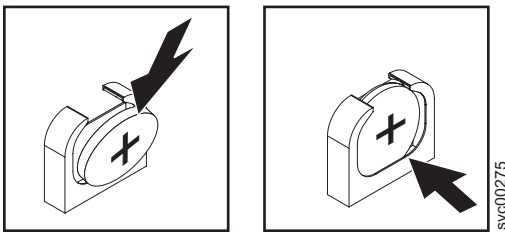

Figure 138. SAN Volume Controller 2145-CG8 or 2145-CF8 CMOS battery holder
- b. Press the battery across into the socket until it clicks into place. Make sure that the battery clip holds the battery securely, as shown in Figure 138.